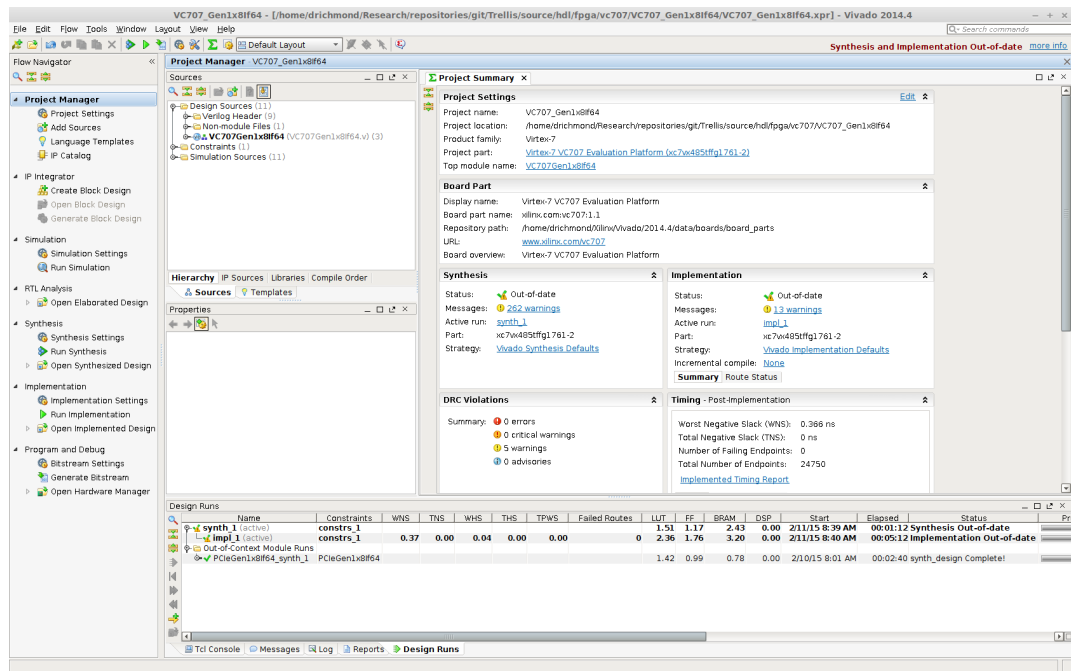
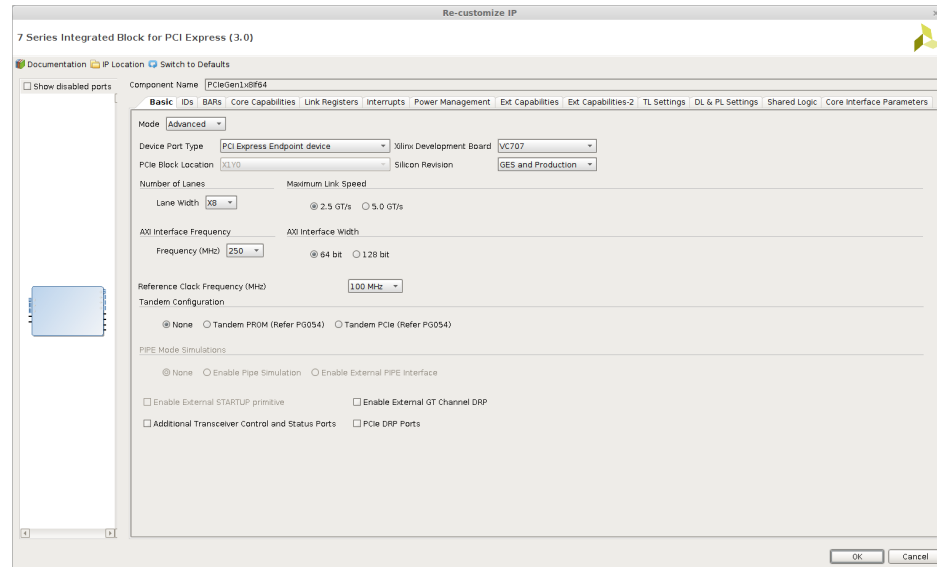

Figure 4.2: Project Splash Screen for 7Series Integrated Block for PCI Express Projects
Figure 4.4: Basic settings tab.
3. In the RIFFA 2.2.2 distribution, open *RIFFA 2.2.2/source/fpga/xilinx/vc707/* or *RIFFA 2.2.2/source/fpga/zc706* and choose from one of the existing example design directories for your board. In the example design directory, locate the *prj* folder and open it. Select the *.xpr* file and click open. This will open the example project, as shown in Figure 4.2.
- To recompile the example design, click the generate bitstream button in the top left corner as shown in Figure 4.2.
To generate the PCIe IP select the 7 Series Integrated Block for PCI Express after selecting the IP Catalog shown in Figure 4.2. This will open the IP Customization window as shown in Figure 4.4
In Figure 4.4 , we have set the **Xilinx Development Board** to **VC707**, selected the PCIe Gen1 rate **2.5 GT/s**, and a **Lane Width** of **8** (***C_NUM_LANES*** = 8). We have chosen to set the **AXI Interface Width** to **64-bits** (***C_PCI_DATA_WIDTH*** = 64). The choice of Link Rate, Lanes, and Interface Width will allow different AXI Interface Frequencies to be selected. The RIFFA core will run at this clock frequency, but the user logic can run at whatever frequency it desires.
Optional: Set the Component Name of the PCI Express block, and the IP Location. In our example projects, we use the name template PCIeGen**W**x**Y**if**Z** where **W** is the PCI Express Version (**Link Speed** in Figure 4.4), **Y** is the lane width, and **Z** is the AXI interface width. The IP location is the *ip* directory in the example project.